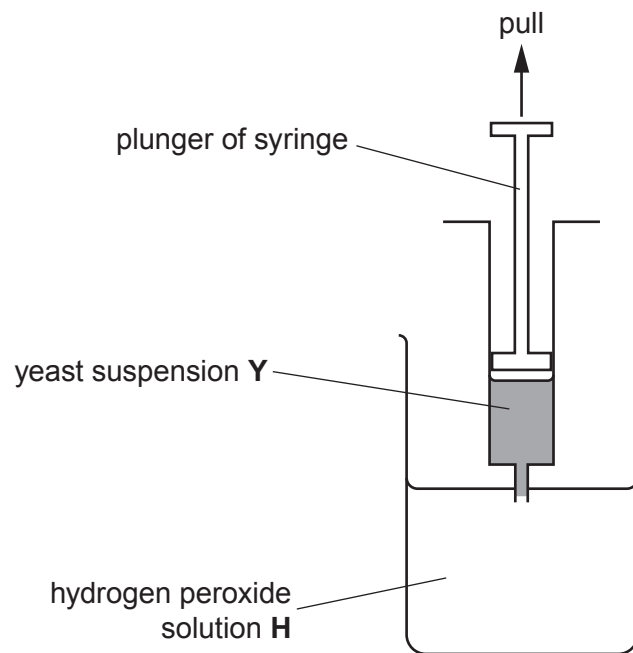

Fig. 1.1
4. Take up 1.0 cm^3 of hydrogen peroxide solution **H** into the same syringe, as shown in Fig. 1.1.
12. Take up 1.0cm^3 of hydrogen peroxide solution **H** into the same syringe, as shown in Fig. 1.1.